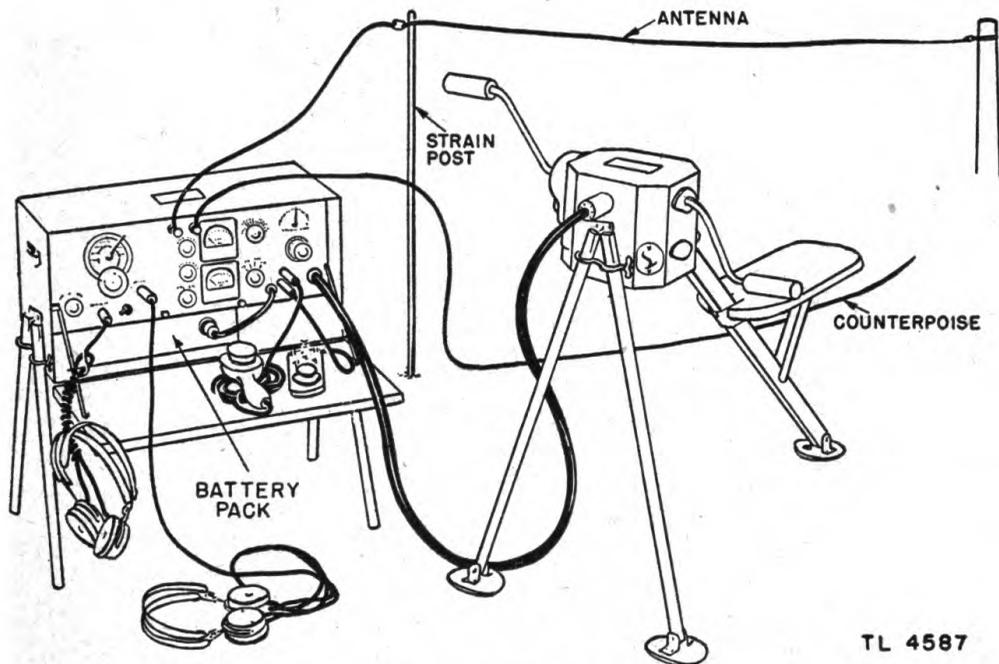

FIGURE 5.—Radio set SCR-288 set up for operation (receiver employing battery pack).
8. Installation.—See figures 5 and 6 and see FM 24-5 as a guide in selection of a site. The exact location of the set must be such that the outer end of the 35-foot antenna can be suspended from some convenient object by the 15-foot suspension cord. Where there are no convenient objects the using personnel must improvise.
b. *Receiver operation by means of batteries* (see figs. 5 and 6).—(1) Turn switch marked REC-TRANS (located at bottom of panel underneath ANT and GND binding posts) to the REC position.
(2) Insert the phone plug in the jack marked PHONES. (This is a filament switching jack and the receiver is inoperative unless headphones are plugged into this jack.)